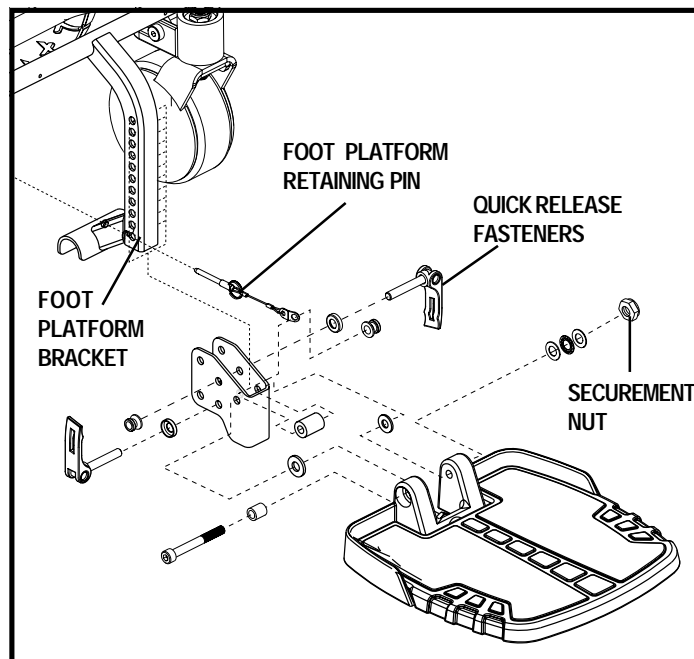
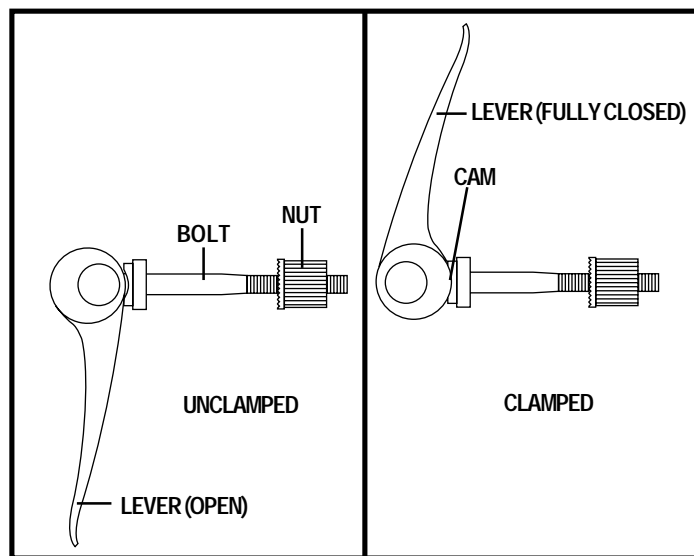

Figure 16. Foot Platform Adjustment
Figure 17. Quick Release Fastener Operation
1. Remove the quick release fasteners from the foot platform bracket. See figure 16.
Quick Release Fasteners: The foot platform is attached to the power base with two quick release fasteners. See figure 16. Each quick release fastener consists of a bolt, a lever, and a nut. See figure 17. The lever has a cam on the end that allows it to clamp into place. The quick release fastener has two states: clamped and unclamped. When the lever is open,
You can adjust the angle of the foot platform with a hex key. See figure 16.